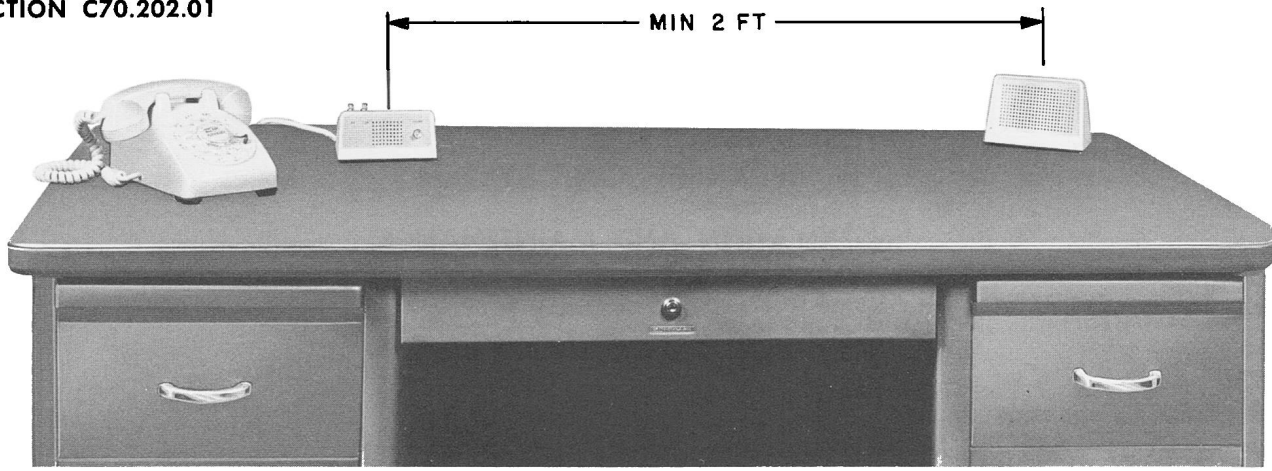

Fig. 1 — 3A Speakerphone System Installation and Maintenance
- Replace Fig. 1.
1.03 Fig. 1 shows a typical installation.